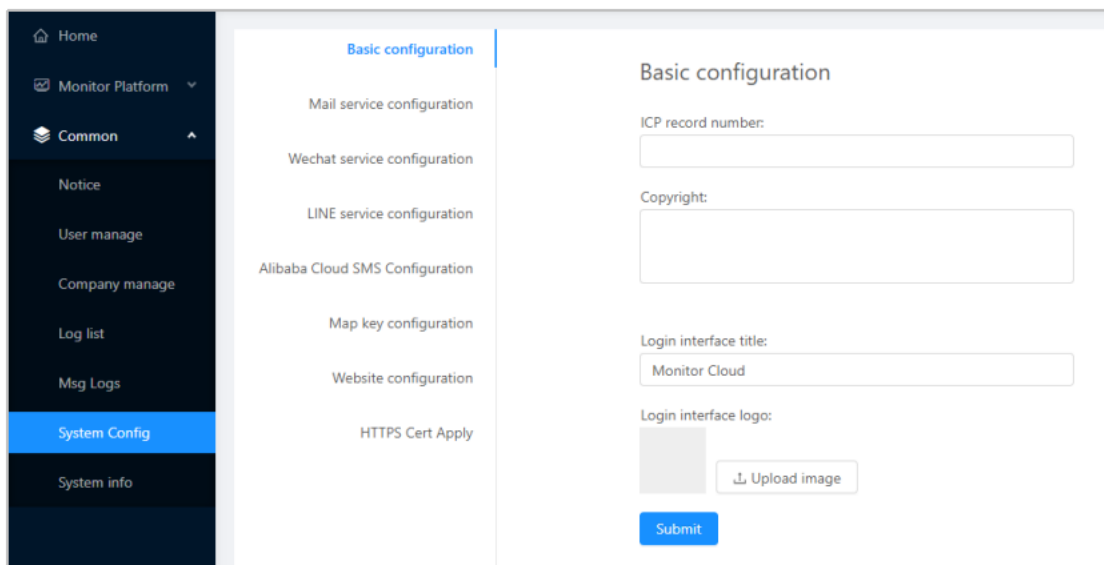

Figure 3-58
- (1) Basic Configuration: Navigate to the "System Config" page and click "Basic configuration" to access the basic settings. Here, you can add or modify items such as the "ICP Registration Number", "Copyright", "Login Page Title", and "Login Page Logo", as shown in Figure 3-58.